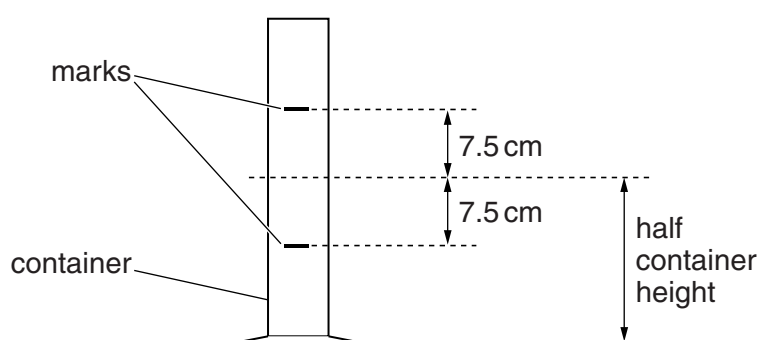

Fig. 2.1
- Two waterproof marks should be made on the cylindrical container as shown in Fig. 2.1.